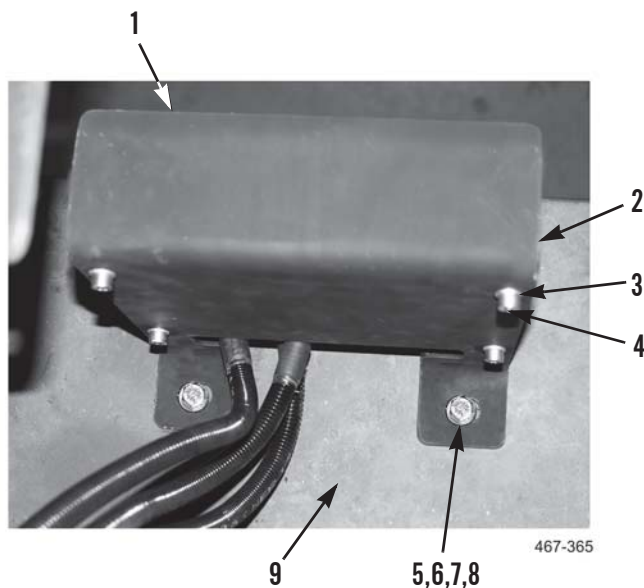

Figure 5. PLS M1075 Stowage Control Unit Installation.
1. Install stowage control unit (Figure 5, Item 2), four washers (Figure 5, Item 3), and bolts (Figure 5, Item 4) on stowage control unit bracket (Figure 5, Item 1).
2. Install stowage control unit bracket (Figure 5, Item 1), two washers (Figure 5, Item 6), bolts (Figure 5, Item 5), washers (Figure 5, Item 7), and new locknuts (Figure 5, Item 8) on platform (Figure 5, Item 9).